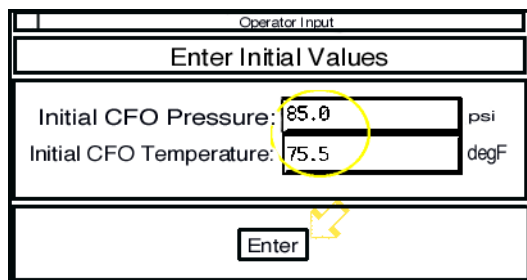

Figure 12
- 110 Click in the proper fields in the "Enter Initial Values" menu, use the keypad to enter the initial CFO pressure and initial CFO temperature noted in Step 109. See the circle in Figure 12.
Click on "Enter." See the arrow in Figure 12.